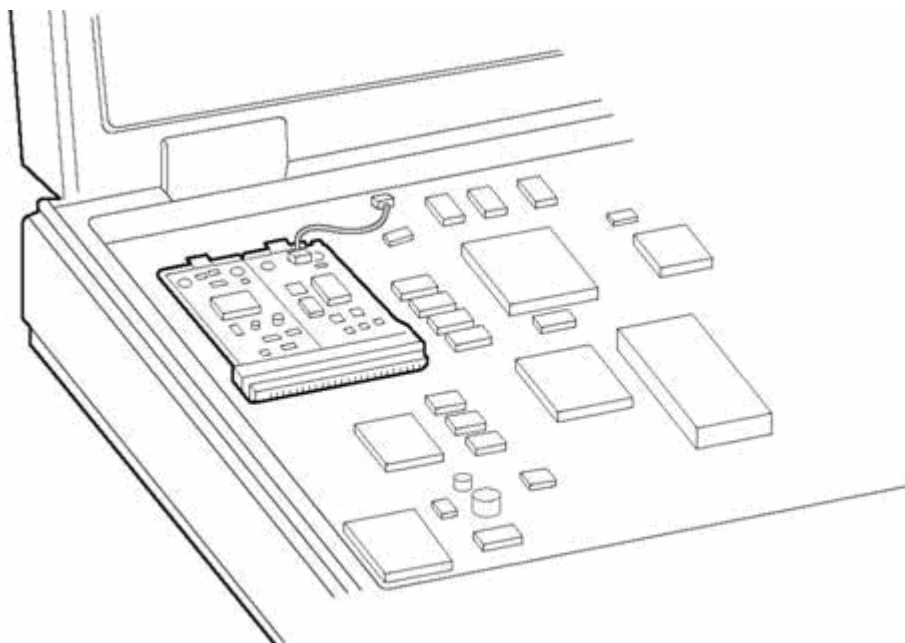

Figure 1-1: Example PCIe Half-Height Mini Card Installed in a Mobile Platform
5. Connect the antenna cable from the Antenna in the platform to the u-fl socket on the module and ensure the antenna is properly connected. (See example Figure 1.1 below)
5. Install the Intel® Wireless UWB Link 3480M module into the Device Under Test. Ensure that the Intel® Wireless UWB Link 3480M is installed in the test platform and the antenna is properly connected. (See example Figure 1.1)